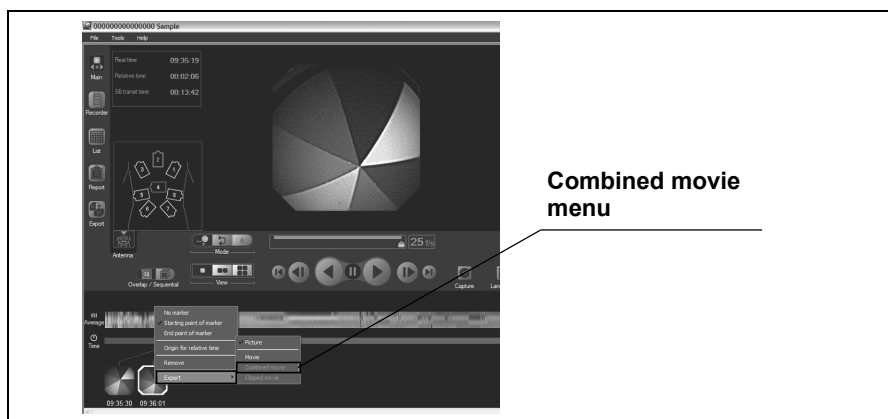

Figure 6.112
6. To create a combined movie, right-click on one of the selected thumbnails and select “Combined movie” from the context menu (see Figure 6.112).